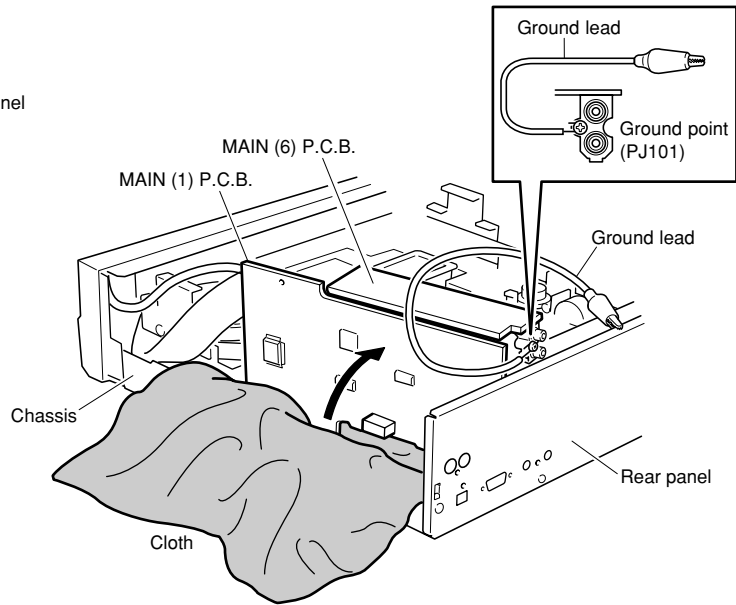

Fig. 2
- d. Remove 1 screw (③), 1 screw (④) and 1 push rivet. (Fig. 2)
- e. Spread a cloth over the main chassis. (Fig. 2)
- f. Put the MAIN (1) and MAIN (6) P.C.B.s on end. (Fig. 2)
- g. Connect the ground point of MAIN (6) P.C.B. to rear panel by using ground lead. (Fig. 2)